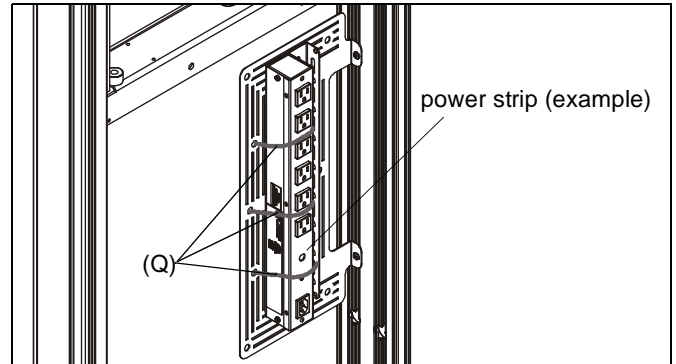

Figure 9
5. Install components to component bracket as desired using cable ties (Q), cable clips (U) or screws. (See Figure 9)